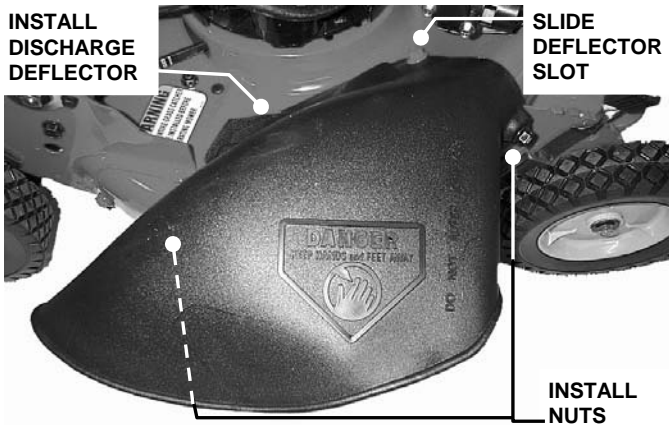

FIGURE 2.17
2. Install discharge deflector and secure to deck using hardware removed in Step 1. Slot in front edge of discharge deflector must be under nut as shown and both bolts protruding through holes in the side of the deflector. Secure nuts to the side of deflector. Tighten nuts securely. See Figure 2.17.